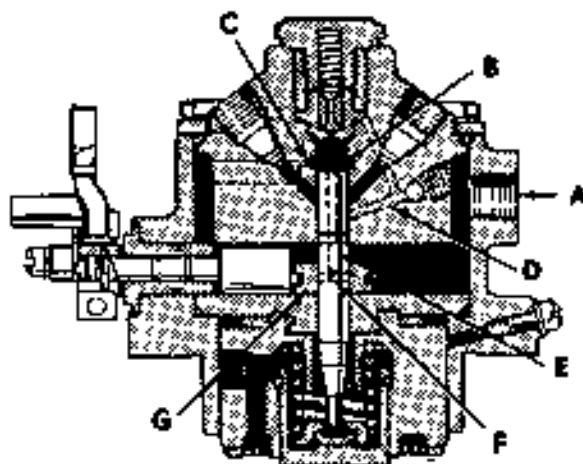

FIGURE 9-9. PSU INJECTION PUMP (DJB-DJC)
Figure 9-9 illustrates the injection pump cross section. PSU models are single plunger, constant stroke, distribution type pumps. Fuel from the transfer pump enters the tapped hole (A) and flows into the fuel sump and through drilled passages to the fill cavity (B) directly above the plunger. As the plunger moves upward from camshaft action, the fill port (C) is sealed (this is the port closing point). As the plunger continues its upward stroke, the fuel which is forced through the delivery valve is conveyed through the drilled passage (D). At this time, this passage is in line with the annulus (E). A slot above the annulus on the plunger indexes with a drilled passage to the appropriate fuel outlet.